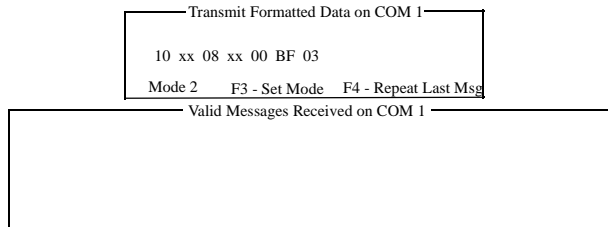

Figure B-5 HARDWARE>TOOLS>RAW TX/RX
5. Press F3 and select Mode 2 messages (see Figure B-5).